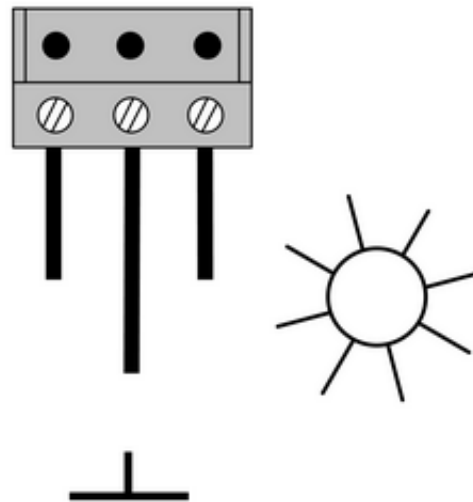

Figure 3: Connection to the terminal block
- Connect sensors as shown in connection diagram (figure 3).